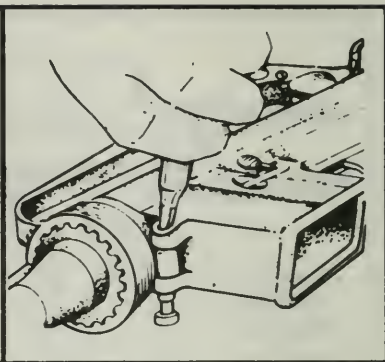

Figure 55. Pushing the receiver pivot pin.
e. Push the receiver pivot pin (Figure 55).